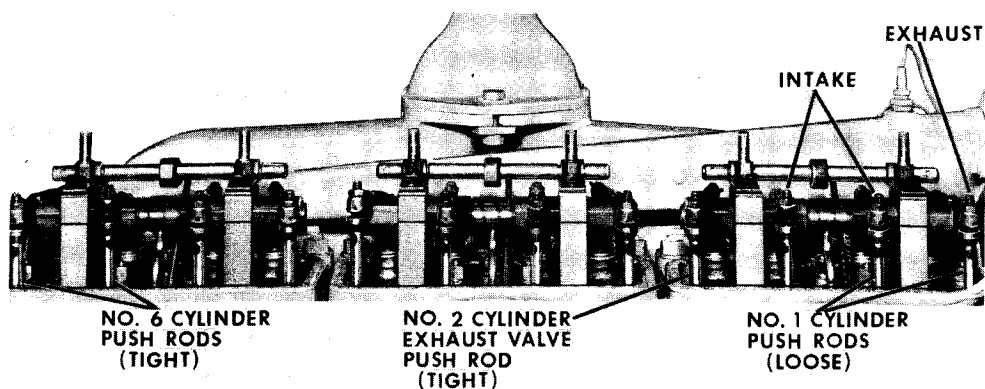

Figure 71
B. When Number 1 piston is at top dead center on the compression stroke, the push rods will be loose on Number 1 cylinder and tight on Number 6 cylinder. The push rod for the exhaust valve on Number 2 cylinder will be tight. Refer to Figure 71. If the reverse is true, crank the engine one complete revolution.